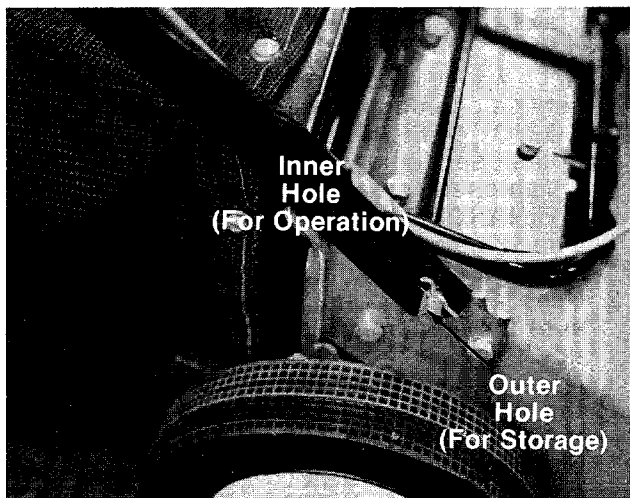

FIGURE 3.
- There are two (2) holes in the handle mount brackets. Place hairpin cotter in the inner hole for operation. The outer hole is for storage. See figure 3.